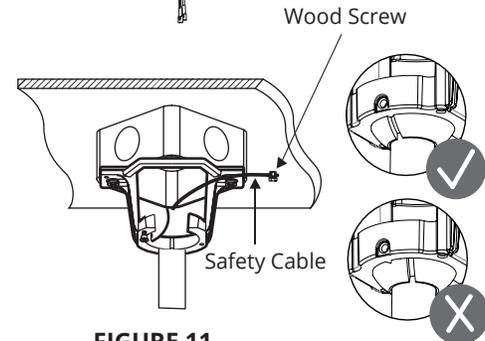

FIGURE 11
3. Carefully lift the fan motor assembly up to the mounting bracket and seat the hanger ball in the mounting bracket socket. Make sure the tab on the mounting bracket socket is properly seated in the groove in the hanger ball. (Fig. 11) Rotate the socket assembly until the ball drops and locks into the hanger bracket screw.
4. Secure the safety cable to the building structure using a wood screw (not included). (Fig. 11)